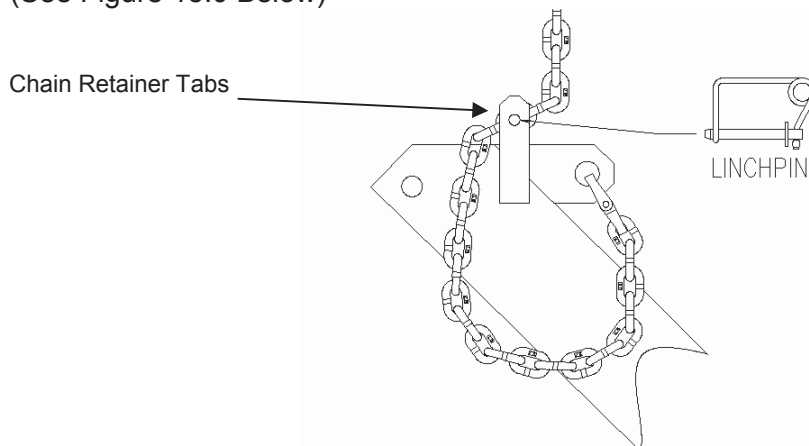

Figure 15.0 MPS 350 Chain Retainer
- 17** With the MPS 350 in an Up (Traveling) Position, remove the Linchpin and open the Clip on the end. (See Figure 15.0 Below)
- 18** Insert the Chain between the Chain Retainer Tabs. Next, insert the Linchpin through the Chain Retainer Tabs and Chain. Lock the Clip on the end to secure in place. (See Figure 15.0 Above)